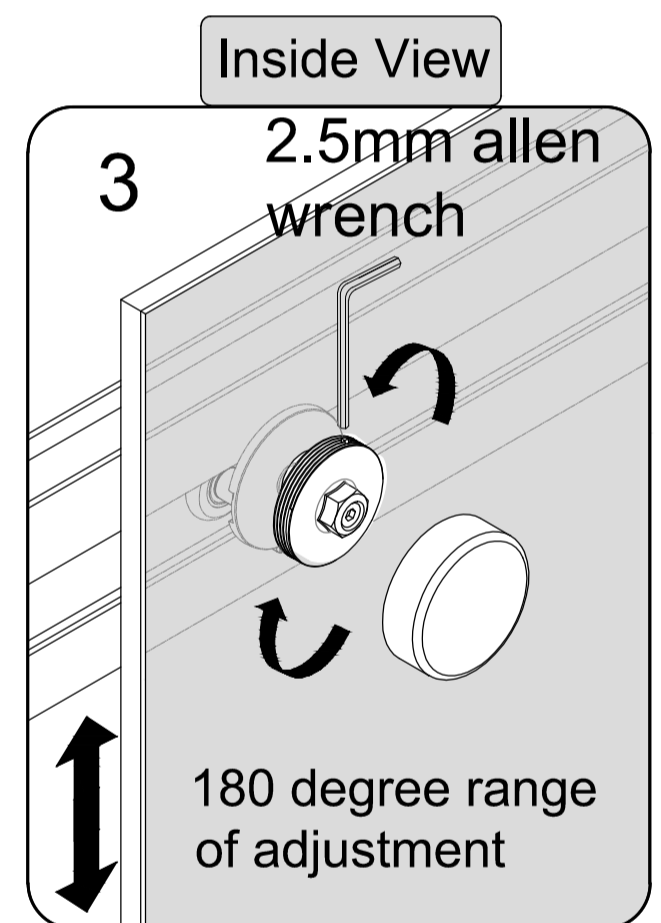
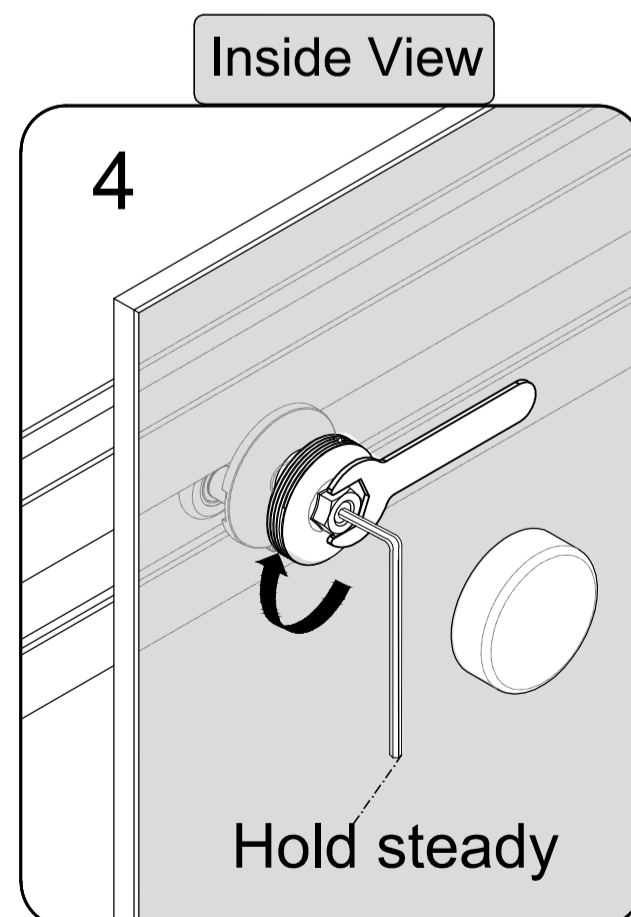

Fig.3
Fig.4
3. Drill the holes as Fig.3 and Fig.4;
3. Adjust rollers up or down to make sure the door align with wall as Fig.3.
4. Fasten the screw nut as Fig.4.